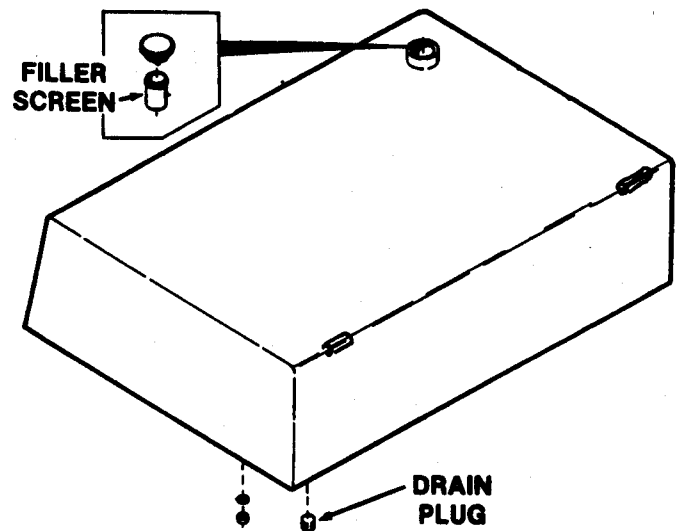

Figure 4. Hydraulic Oil Tank
1. Disconnect the brake control cable from parking brake lever 74, Figure 4).
2. Loosen adjusting nut (3).
3. Remove bolts (1). Remove the brake assembly and shims (21 and 22).
4. Install in reverse order. Fit shims (21 & 22, Figure 4) between mounting bracket (17) and caliper bracket (16) as necessary to align the parking brake caliper assembly centerline to within .020 inches (0.5 mm) of the brake disc centerline. Tighten bolts (1) to 87 lb-ft. (118 Nm).
Use Figure 4 as a guide in disassembling the brake.
To disassemble the parking brake caliper assembly, the tension spring (14, Figure 4) must be released; apply and keep pressure to item 3, remove items 10 and 11. Allow the spring to open out to its full travel by slowly releasing hand pressure on item 3.